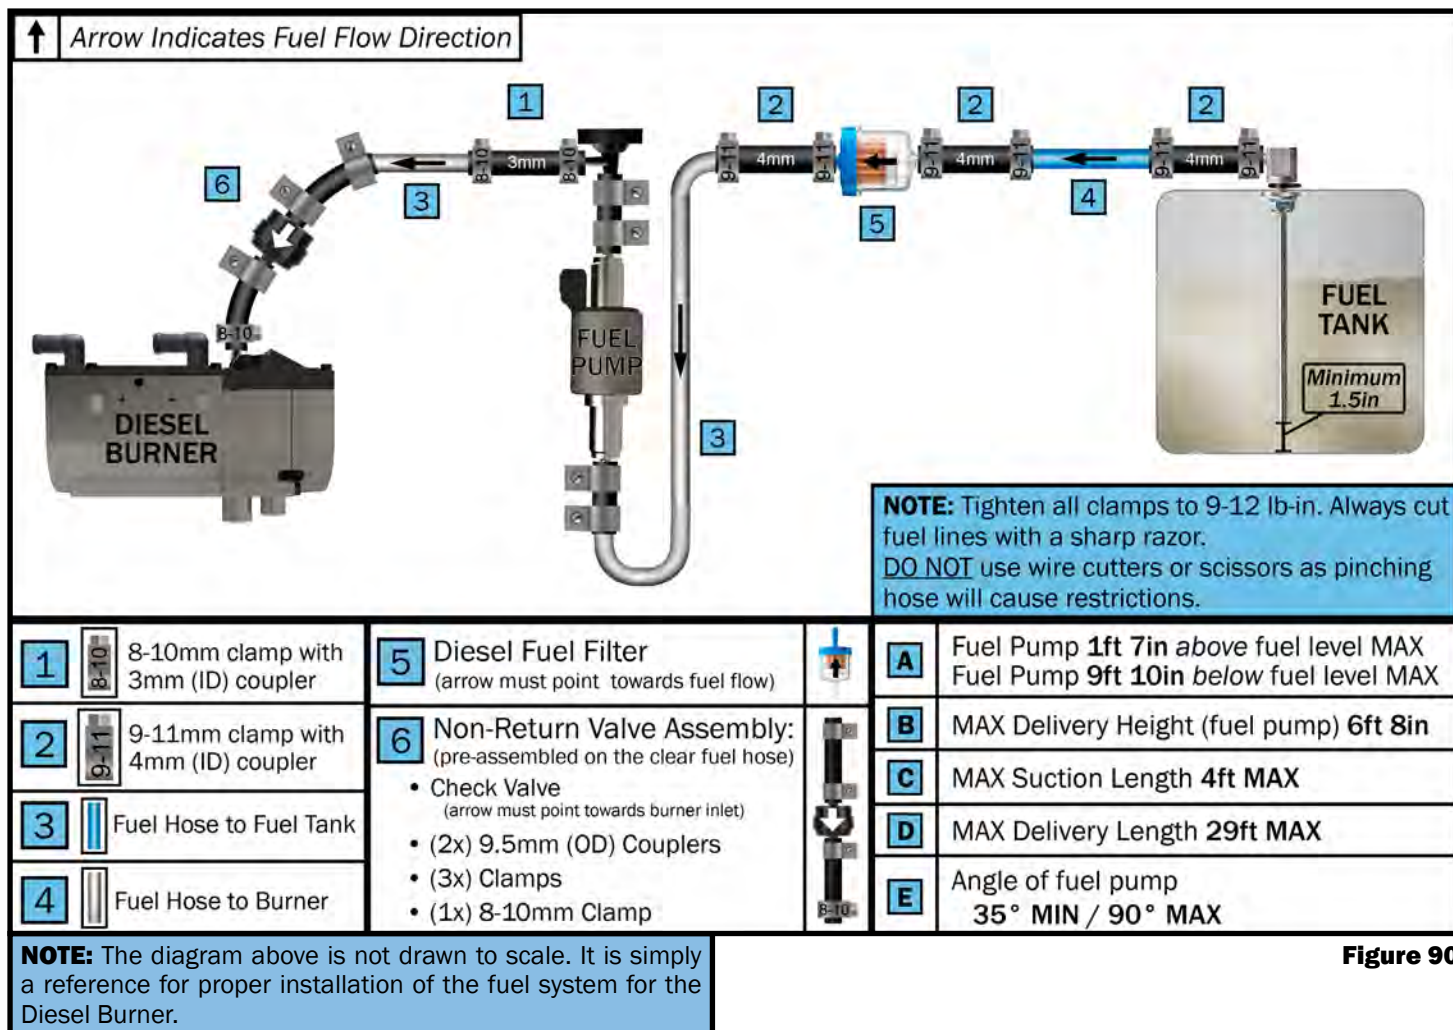

Figure 90
- Use the provided Ø4mm x 1mm (to heater - transparent) fuel hose and Ø2mm x 5mm (to fuel tank - blue) fuel line with the included couplers and clamps. See Figures 90 & 96
- The fuel hose should not be descending from the fuel pump to the burner - see Figure 90.
- The fuel line must be secured to the connections and couplers by hose clamps. See Figures 90 & 96.
- The fuel damper should be installed according to the practical situation. Reference Figure 90 #5.
- The fuel filter should be installed before the fuel inlet of the fuel pump. Make sure orientation and position of the filter is accurate with the flow of fuel. Reference Figure 90 & 94.